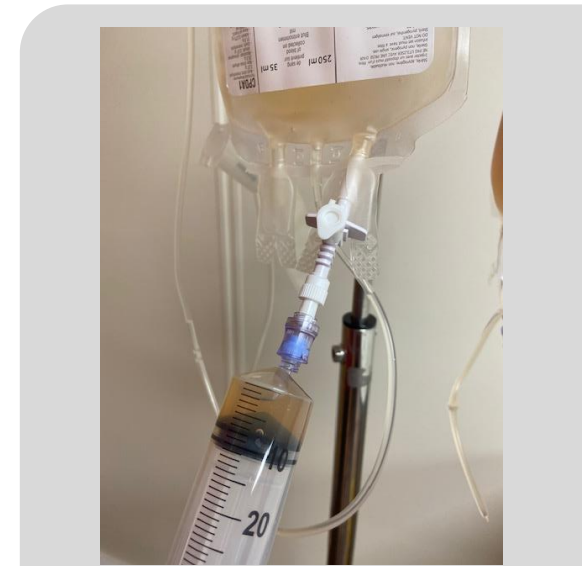

Fig. 18
- Attach the blood component filled syringe to the needle-free valve on the empty collection bag and gently instill the blood component (Fig.18). Repeat using a clean sterile syringe each time until the desired volume has been transferred. Ensure the port and valve are never touched with anything non-sterile.